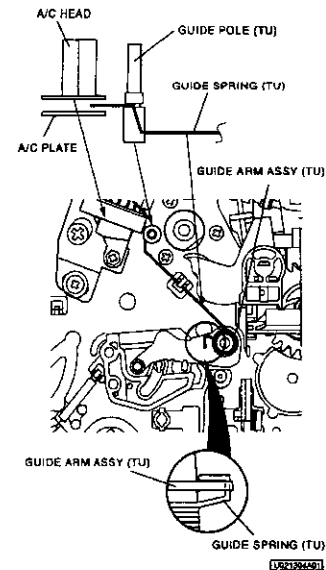

Fig. 2-13-4
- 6 Install the GUIDE SPRING (TU) on the position shown in Fig. 2-13-4.